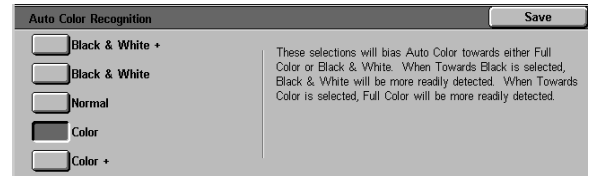

Figure 55: Color Recognition settings
- Touch the box that indicates the appropriate image quality level setting for Auto Color Recognition, as illustrated in Figure 55.